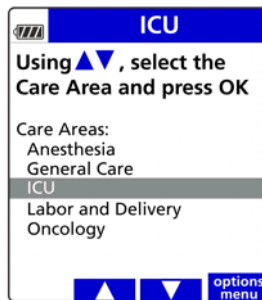

Figure 121. Select Care Area Screen.
3. Press the arrow soft keys to select the Care Area and press **OK**. See Figure 121.